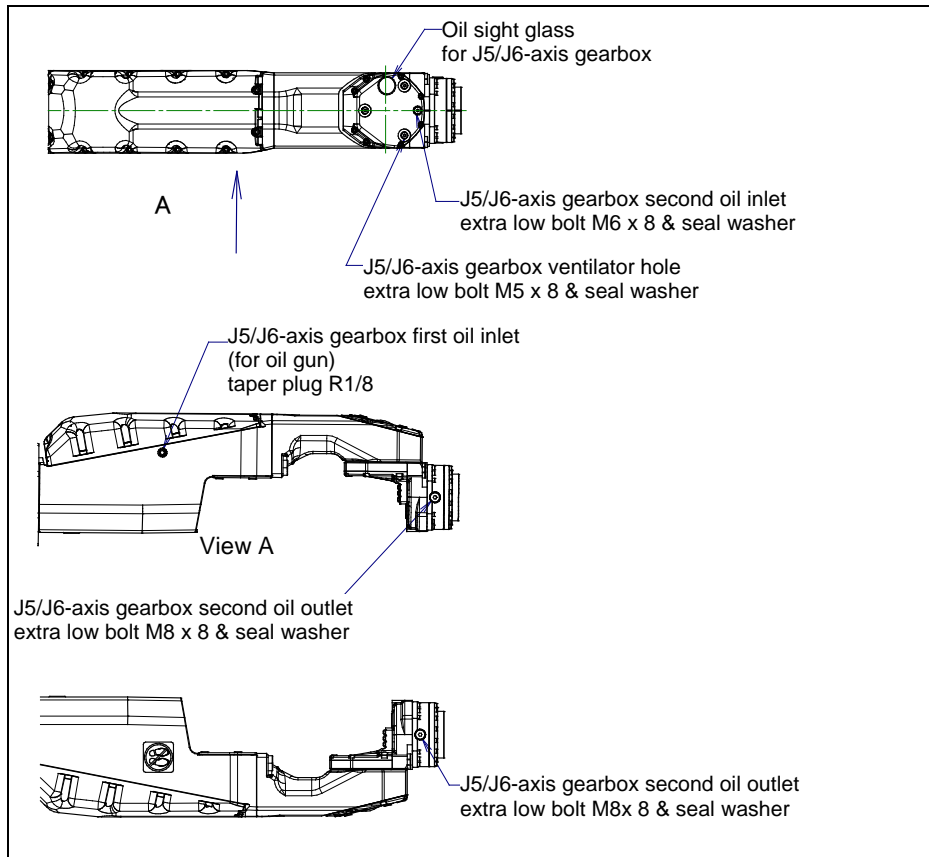

Fig. 8.3.2.3 (b) Oil inlet and outlet
- Remove the taper plug, extra low bolt and seal washer of first oil inlet and oil outlet. See Fig. 8.3.2.3 (b) In this time, if you remove bolt of oil outlet firstly, you can prevent spilling oil on surroundings.